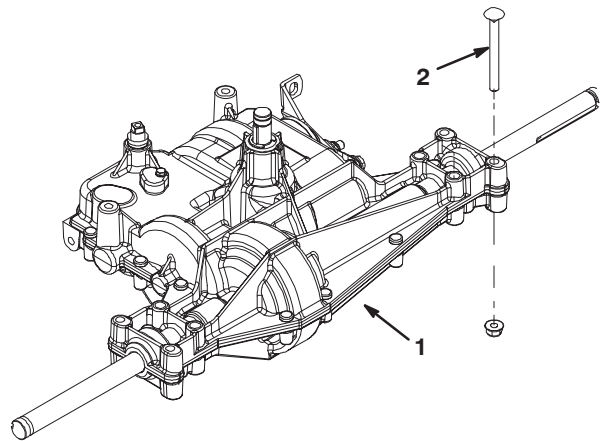

Figure 1
3. Remove the (2) carriage bolts and nuts securing each end of the transaxle to the frame (Fig. 1).